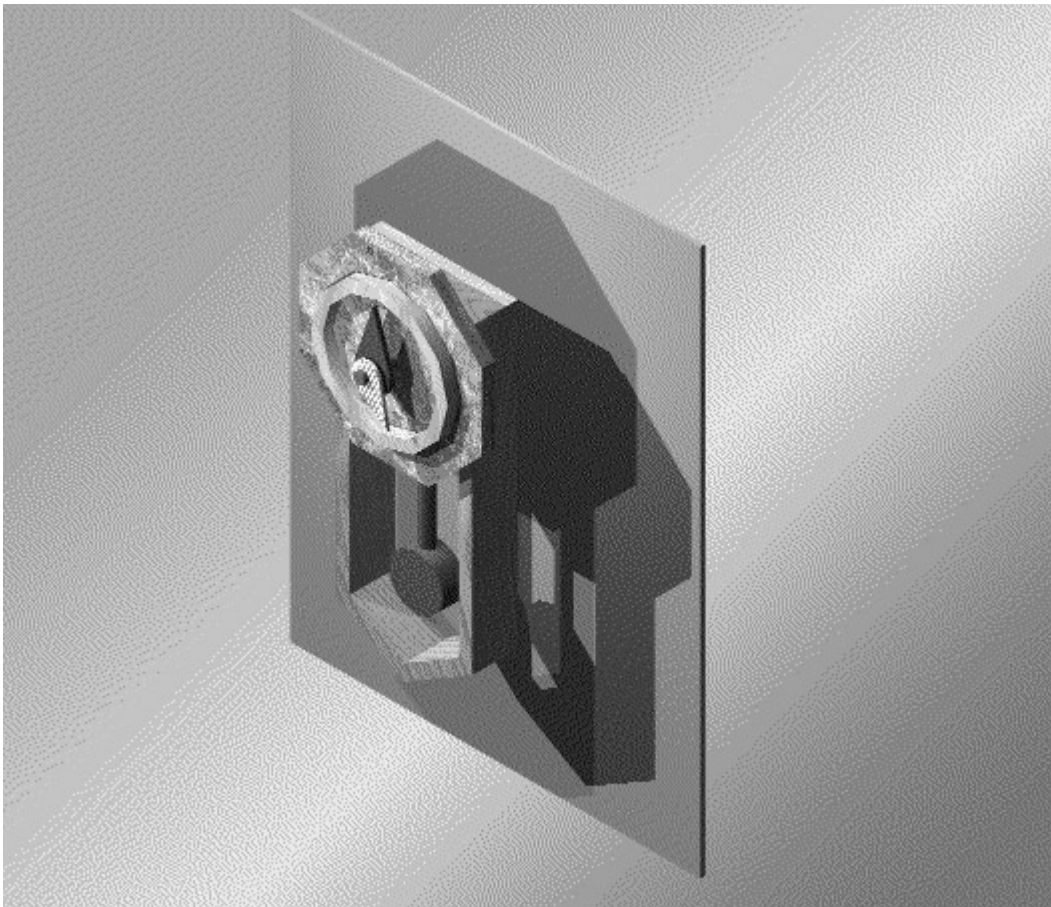

Figure 45.4 The rendered WALL CLOCK with materials attached.
- 13 The rendered image of the clock is displayed in Fig. 45.4